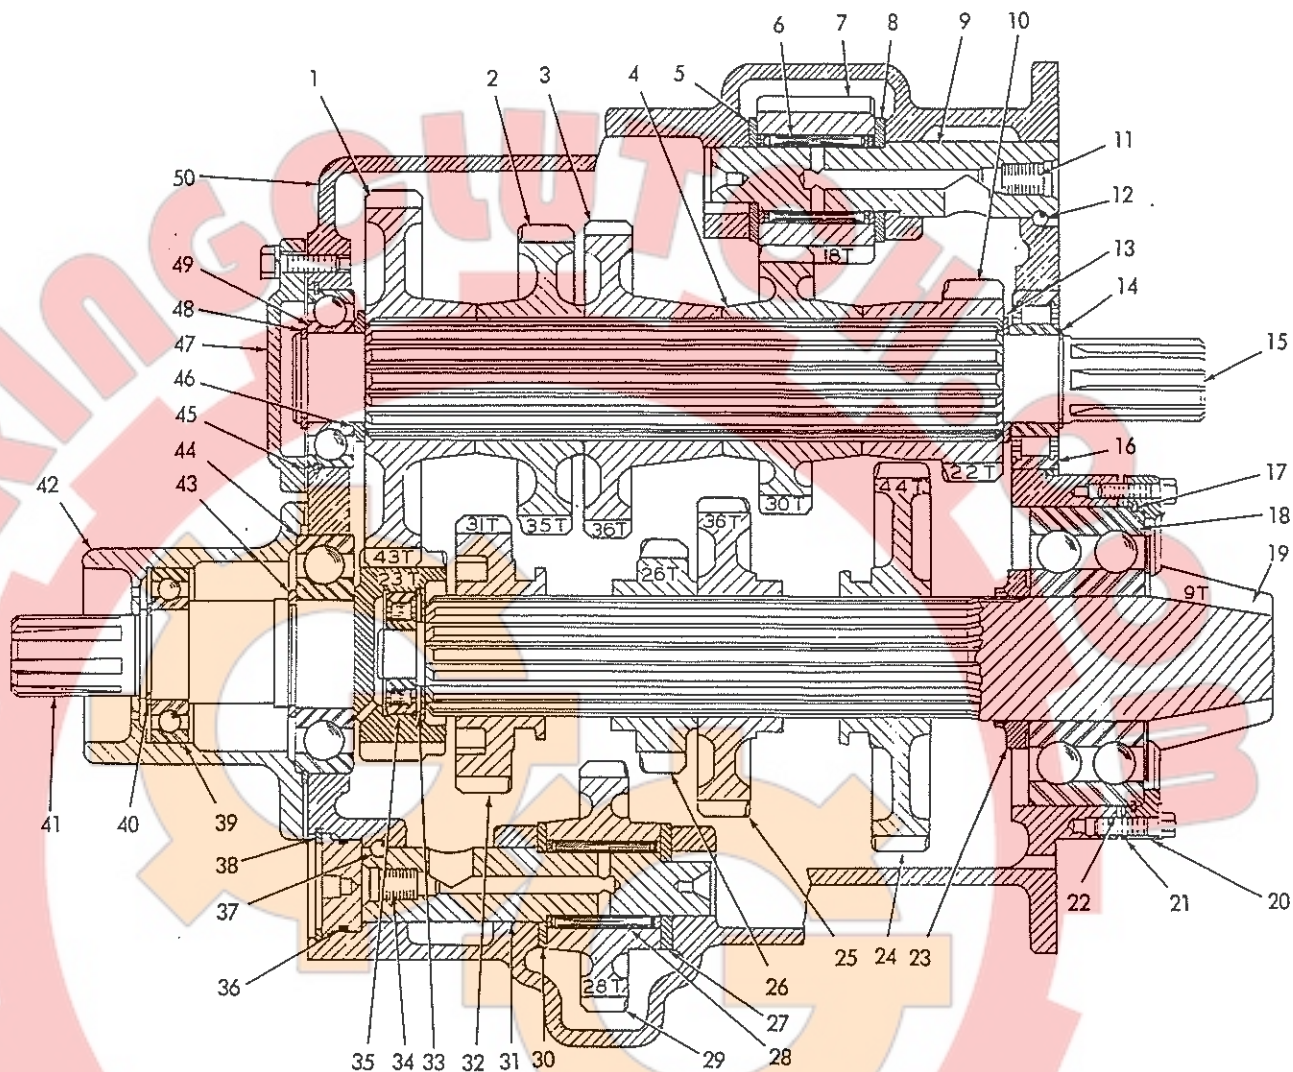

Fig. 2 Two Speed Reverse Transmission (Standard HD6G - Optional HD6A, B, and E)
17. HD6G (also other models with optional two speed reverse), remove snap ring Fig. 8(2), high speed reverse gear shaft hole plug (1), and shaft plug Fig. 2 (34). Use slide hammer puller to pull shaft from case; catch steel locking ball, Fig. 2 (37) as shaft is removed. Remove high speed reverse gear, bearing, and thrust washers from transmission.